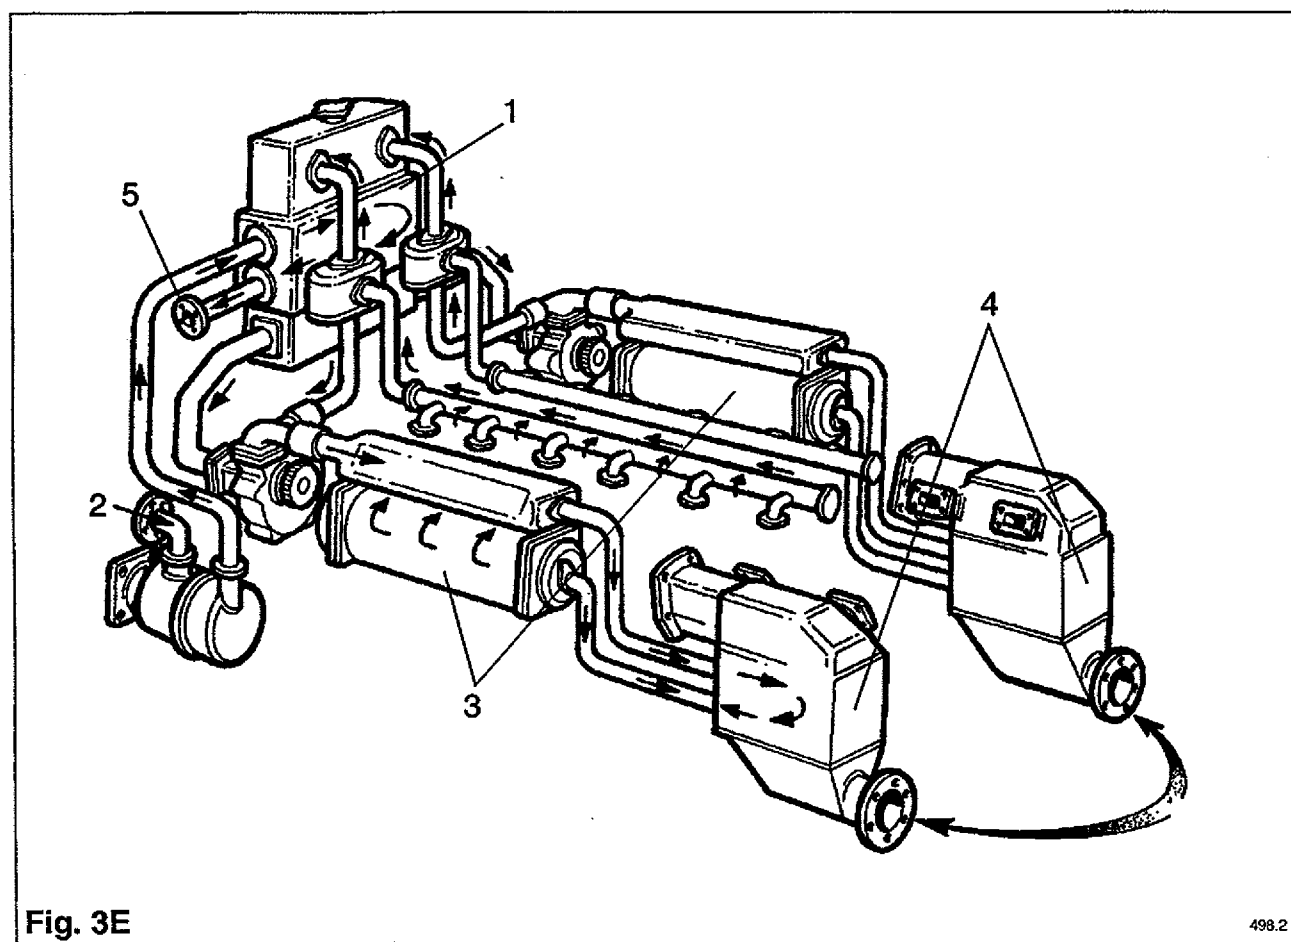

Fig. 3E
The raw water supply (2) is connected to the pump suction and then piped from the pump delivery to the heat exchanger (1). The raw water flows through the heat exchanger where it is used to cool the hot fresh water from the engine cooling circuit, i.e. engine oil coolers (3), charge air coolers (4) and water jackets. Before being piped away back to the source (5) (see Fig. 3E Early Heat Exchanger and Oil Cooler Layout (4012TWG)).